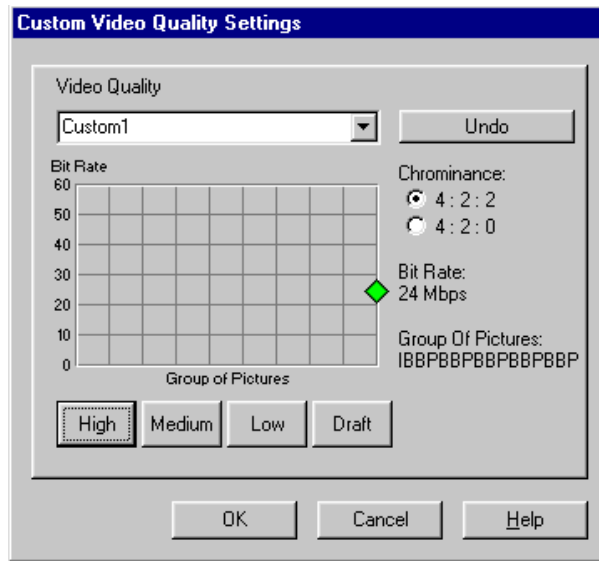

Figure 152. Custom Video Quality Settings dialog box, MPEG
- For MPEG (see Figure 152 and Table 19), move the diamond on the grid to change the bit rate and group of pictures (GOP) settings, and click the button for the desired chrominance setting. The **High**, **Medium**, **Low**, and **Draft** buttons select the preset bit rates and GOP settings, which can be useful as reference points when you are making a custom setting. Click **Undo** to undo changes, and click **OK** when done.